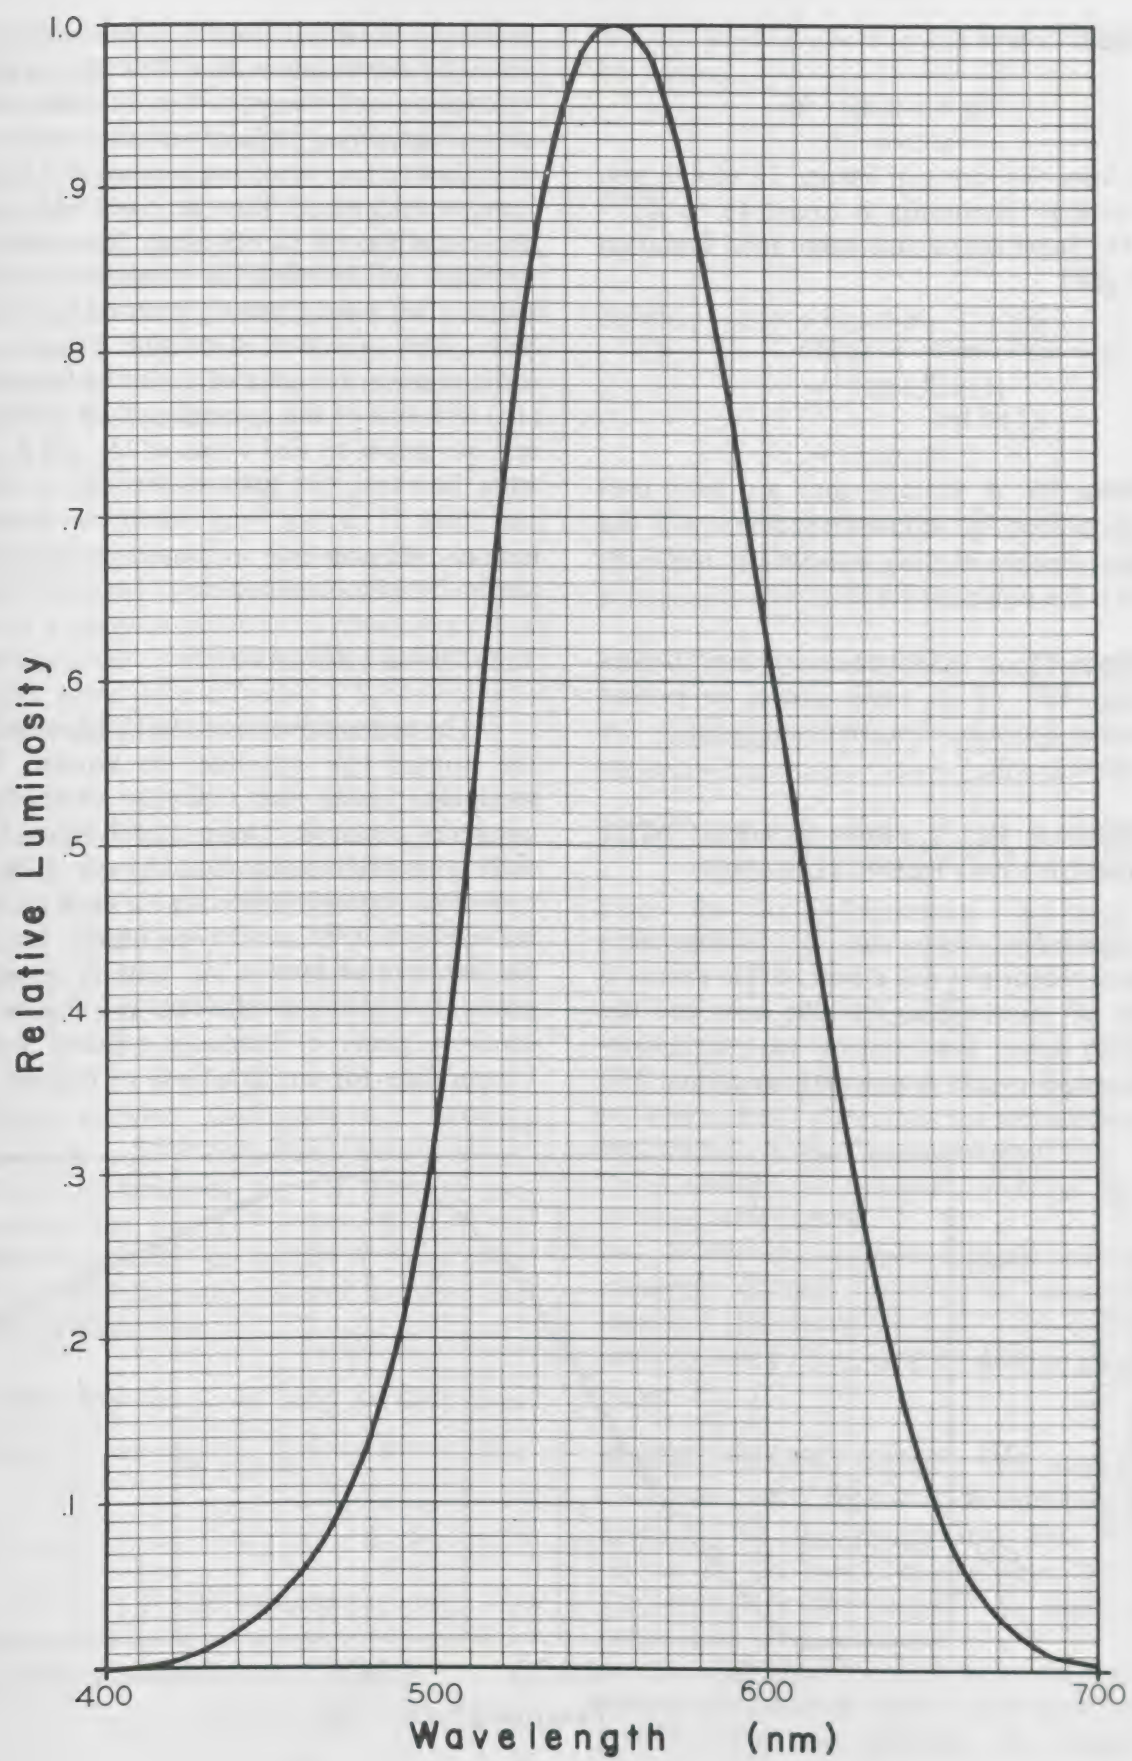

Figure 22.
Only those wavelengths between 400 nm and 700 nm are visible to the eye. But the eye does not respond equally to all of those visible wavelengths. This is also the case with most other detectors of light. For the eye, the response curve starts at zero around 400 nm, rises to a maximum, and falls off to zero near 700 nm. Of course no two people are exactly alike, so that the response curve is different for different people. By testing the responses of a large number of people, averaging the results, and then plotting a graph so that the maximum response is unity, one obtains the *relative luminosity* curve for a standard observer, shown in Figure 22.
The quantity which is plotted on the vertical axis of Figure 22 is the relative sensitivity of the human eye to the corresponding wavelength, λ . This quantity is called the *spectral luminous efficiency*, K_λ .
The curve in Figure 22 is also called the *visibility curve*. One can see from the graph that the maximum K_λ occurs at about 555 nm in the yellow-green region of the spectrum. This maximum means that a radiant flux with a wavelength of 555 nm is more effective in producing a brightness sensation than an equal radiant flux at any other wavelength. In fact, one can see from the graph of Figure 22 that a given amount of radiant flux at a wavelength of 555 nm *appears* about three times as bright as the same amount of power radiated at a wavelength of 500 nm.
Example Problem. A helium-neon gas laser operates at a wavelength of 633 nm and has a power output of one milliwatt. Using the curve of Figure 22, determine the luminous flux from this laser.
and from the curve of Figure 22 at 633 nm, the relative luminosity is found to be $K_\lambda = 0.235$. Substituting this value into Equation (16) gives